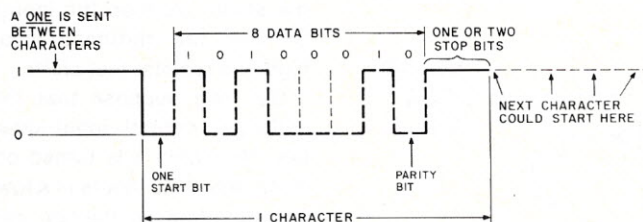

Fig. 5. The letter E as sent over a serial asynchronous line.
character, the signal suddenly changes to a space (0) to form the start pulse shown in Fig. 5. Starting with this pulse, we have a string of either 10 or 11 bits, which follow at a precise speed. This consists of the start bit, eight data bits, which carry the ASCII character and its parity bit, and either one or two stop bits.
As you can see in Fig. 5, the start bit is always a 0 or space, the eight data bits can be either 0 or 1, depending on the character code, and the stop bit is always a 1 or mark. If the character is immediately followed by another one, then the next start bit will be right after the end of the stop. If not, then the stop will simply be continued at a 1 (mark) level until the next character comes along.
Fig. 5 also shows that the bits are sent backward. For instance, the code for the letter E is 1000101. Assuming odd parity, the parity bit would be a 0, and so the complete eight-bit code would be 01000101. But when sent over an asynchronous line, the bits would be sent backward as 10100010 as shown. The reason is that it is convenient if the parity bit is sent last, so that it can be checked after the rest of the bits are received.
So we put all this additional information on the same data line as will carry the data bits. This is done by agreeing on a very carefully timed sequence as shown in Fig. 5.
First, we agree that the characters to be sent may come together in bunches or may be separated by unknown and random intervals of time. But once a character starts, its timing will be precisely controlled, with each bit lasting a known length of time. Since the characters can arrive at unpredictable times, we need to decide what will be on the line between them. As shown in Fig. 5, this is a 1 level, which lasts up until the very beginning of the character.